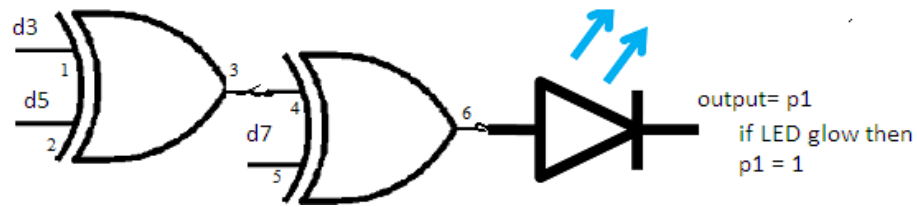

Figure 5.1: Circuit diagram for generation of P_1
- i. Mount EX-OR IC on bread board as shown in figure 5.1.
- ii. Make connection as shown in figure 5.1
- iv. Check output of figure 5.1 Note the value of P_1 in table 5.2.